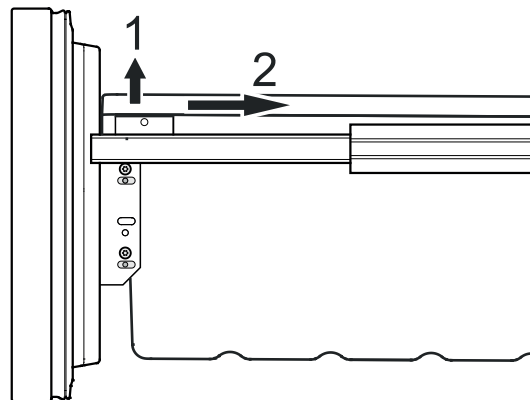
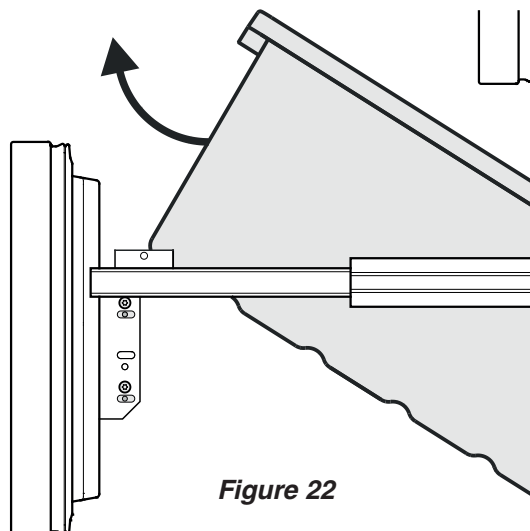

Figure 21
Figure 22
- Unlatch the container on the left and right corners by pulling upwards (1) - **Figure 21**.
- Slide the container backwards (2) - **Figure 21**.
- Tilt the container at an angle and remove - **Figure 22**.
- Remove the freezer drawer containers as shown in **Figure 21** and **Figure 22**.